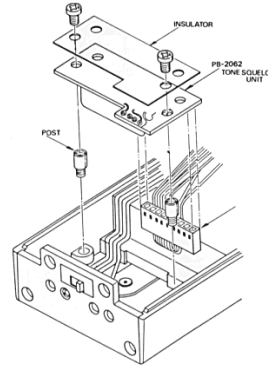

Fig. 6
- (5) Refer to Fig. 6, and plug the Tone Squelch Unit into the wiring harness as shown. Secure the circuit board and its insulator as shown. Close up the transceiver.